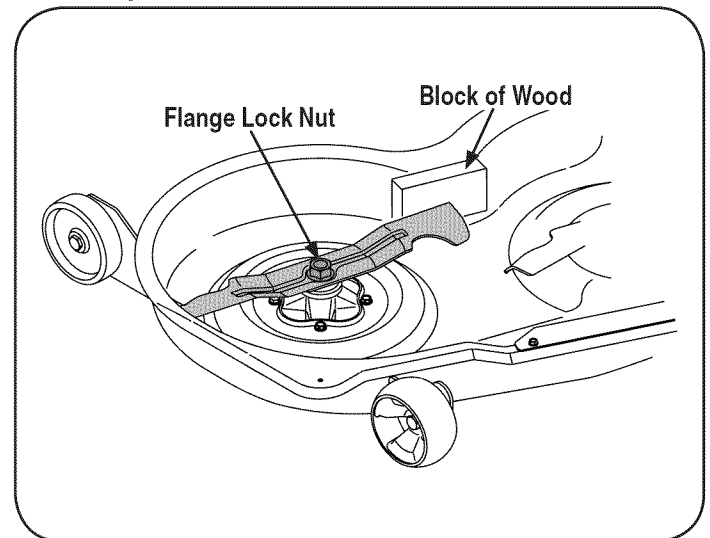

Figure 17
- Place a block of wood between the center deck housing baffle and the cutting blade to act as a stabilizer. See Figure 17.
- Remove the flange lock nut that secures the blade to the spindle assembly. See Figure 17.